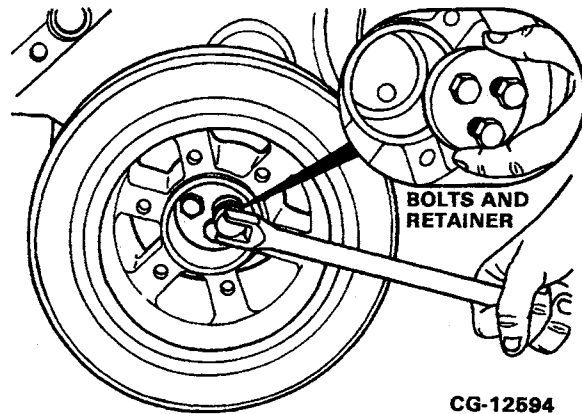

Figure 7.39. Remove Damper Retainer
- a. Loosen and remove the three bolts and retainer. Refer to Figure 7.39.